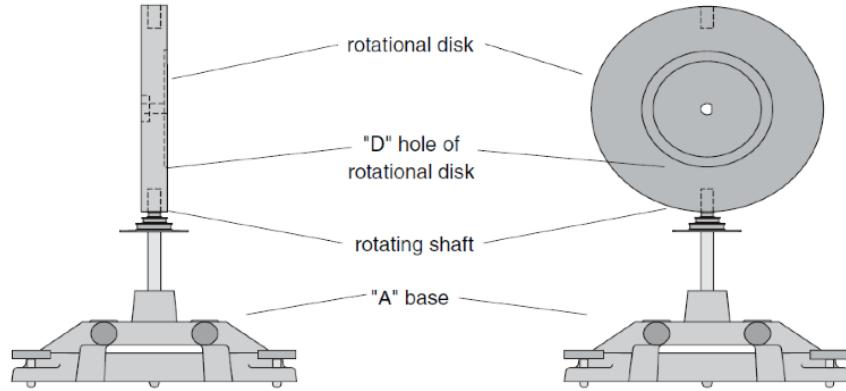

Figure 6: The setup for Section 3.3 steps 7 and 8.
1. Remove the straight track from the “A” base by loosening the screw under the track and lifting it from the center shaft. Put the straight track aside. Position the rotational disk directly on the center shaft as shown in Figure 6. The side of the disk that has the indentation for the ring should be up.
7. Remove the disk from the center shaft and rotate it up on its side. Mount the disk vertically by inserting the shaft in one of the two “D”-shaped holes on the edge of the disk. See Figure 6.